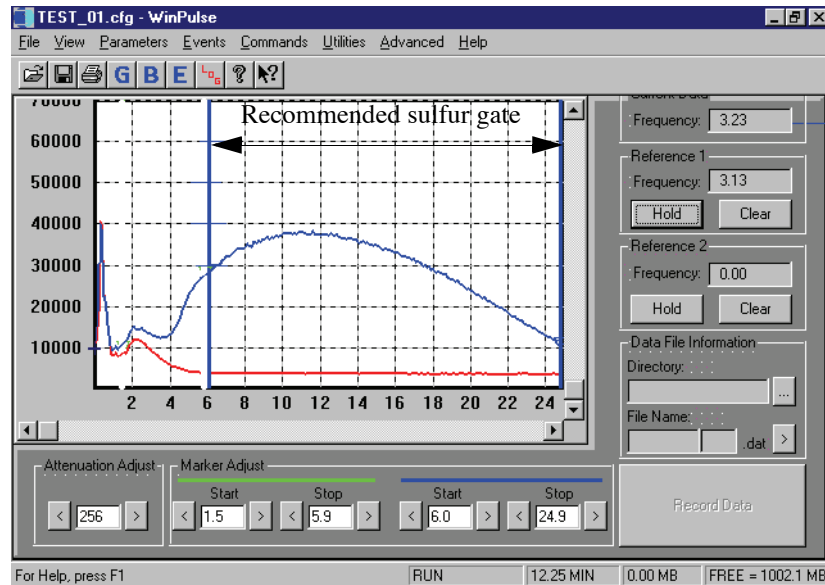

Figure 5.5. Sulfur emission and gate settings for maximizing sulfur response using a 2-mm combustor
5. In the Gate Parameters screen, set the integration gate's start and stop times (recommend 6 ms and 24.9 ms respectively) to optimize sulfur detectivity. If the gas flow rates are properly set, the sulfur emission extends to 24 ms or beyond for 2-mm combustors (Figure 5.5).
4. Delay the gate start time relative to that shown in Figure 5.5 (i.e., increase the gate A **Start Time** in the Gate Parameters screen to 6–8 ms), minimizing the hydrocarbon and sulfur response overlap. Due to the sulfur emission's long time domain, a correctly delayed gate virtually eliminates carbon interferences without using dual gate techniques.